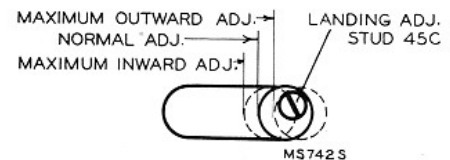

Fig. 6
1. Assemble the tone arm and trip lever assemblies as shown in figure (4). Leave the clamping screw (57) loose enough to permit horizontal movement of the trip lever on the shaft. (Allow approx. .010 inch vertical end play.)
2. Turn the eccentric landing adjustment stud (45C) to determine the inward and outward limit of adjustment, then turn it to a setting half way between the limits. Fig. 6. (Screwdriver slot approx. 30° from parallel with front edge of subpanel, in a counter-clockwise direction.)
5. Tighten clamp screw (57), apply power and run the mechanism through cycle. (Note the sapphire landing position.)